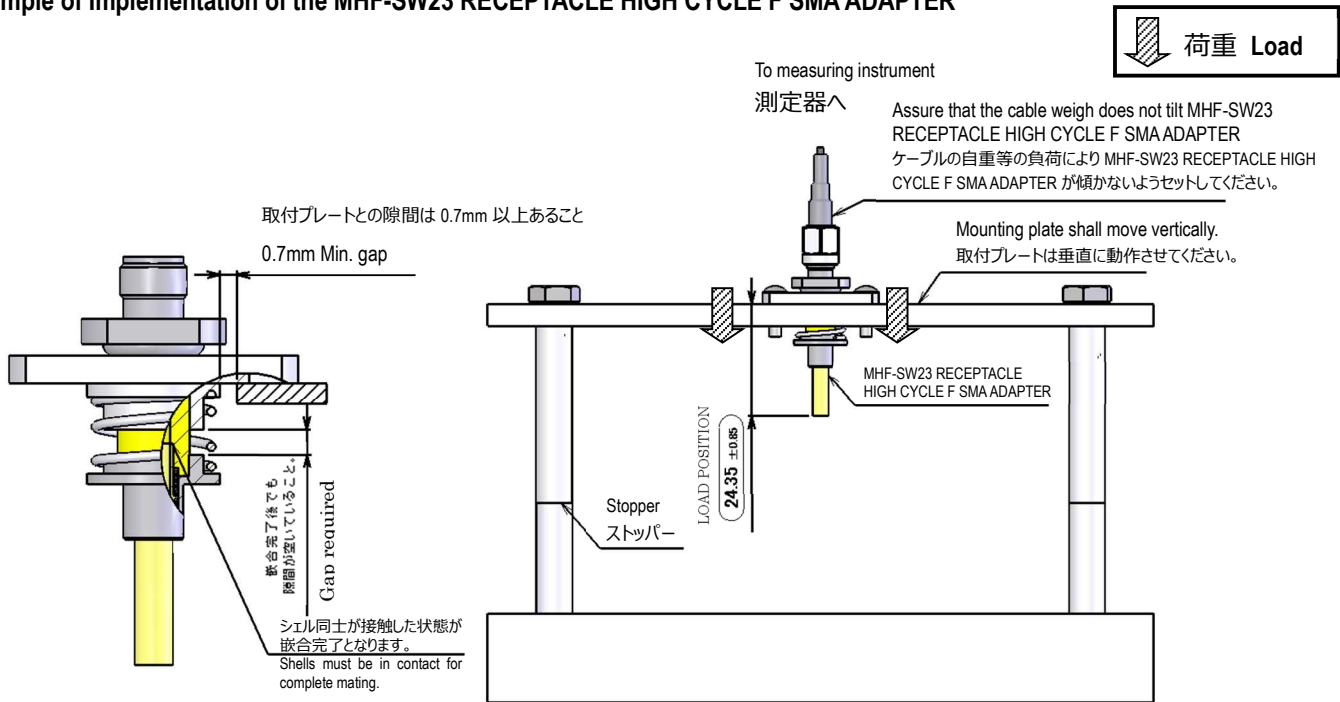

Figure 8
1. Refer to above figure 8 for layout of the jig.